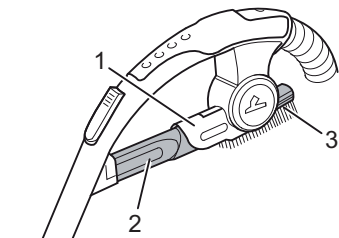

Fig. 5
The 2-in-1 combi nozzle and the crevice nozzle are included in the package as **accessories**. They can be attached to the accessory bracket (Fig. 5/1).
■ **Crevice nozzle (Fig. 5/2):** Use these accessories to vacuum dust from hard to reach places.
■ **The 2-in-1 combi nozzle (Fig. 5/3) is used as a:**